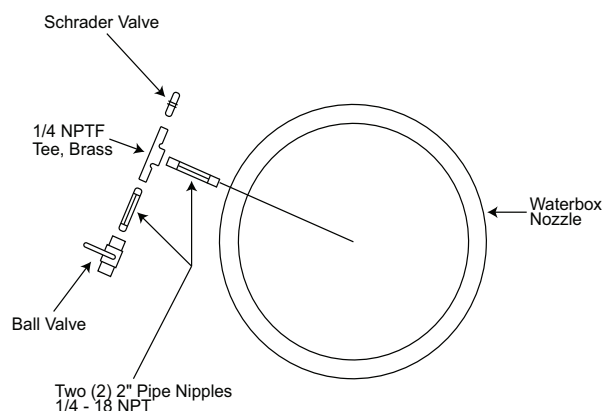

Fig. 27 — Suggested Installation of Pressure Transducers into Water Nozzles Using Flushable Dirt Leg Trap
5. Installation of pressure transducers into water nozzles using flushable dirt leg trap is suggested; see Fig. 27. Pressures can be calibrated between 100 and 250 psig (689.5 and 1723.7 kPa) by attaching a regulated 250 psig (1724 kPa) pressure (usually from a nitrogen cylinder). For calibration, access the Pressure Sensor Calibration Menu from the Maintenance Menu and calibrate the appropriate sensor.